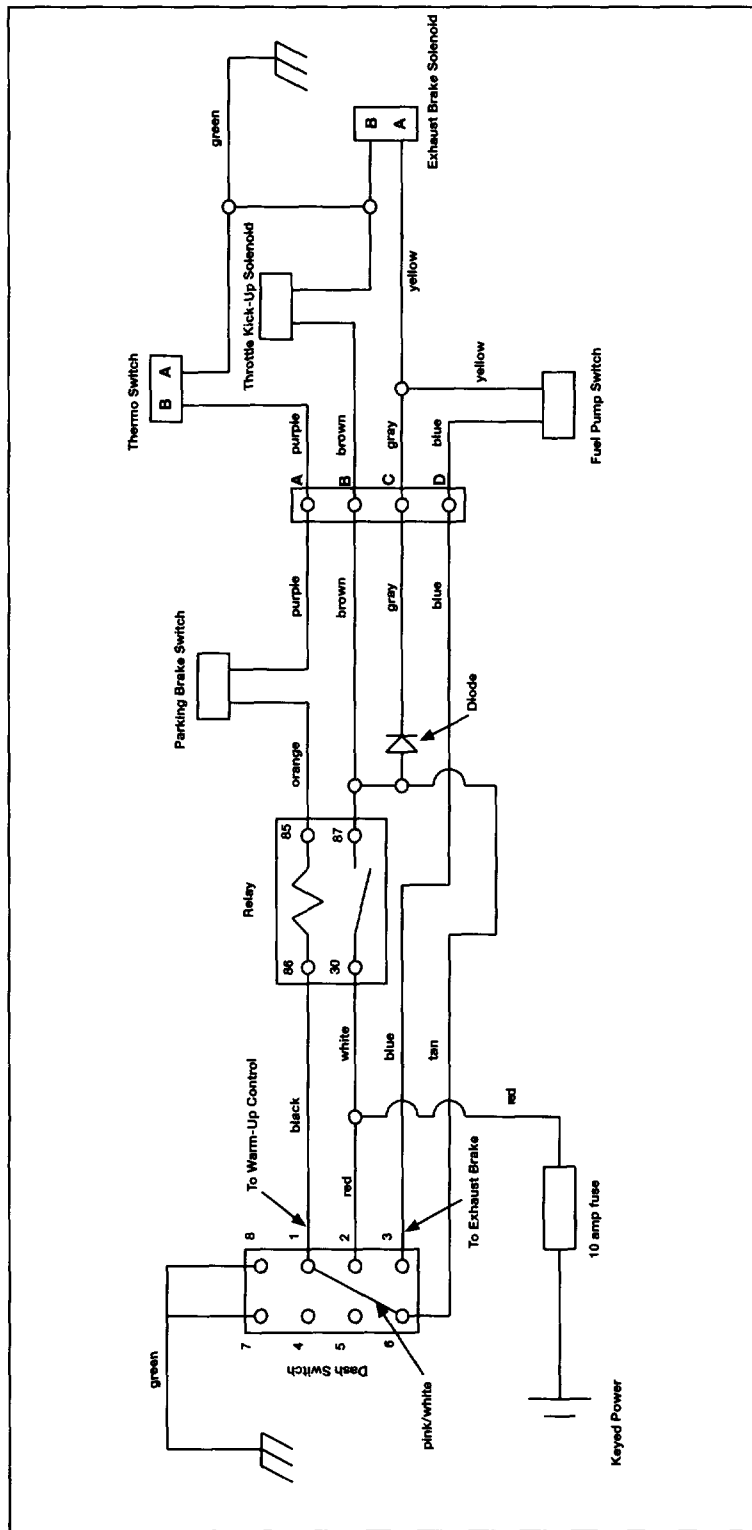

Figure 7
4. Check the operation of the Warm-Up Control Relay. To check Relay operation, apply 12 V across the Relay coil (pins 86 and 85 – see wiring diagram, Fig. 7, on the next page), then check for a closed circuit across pins 30 and 87 (a closed circuit indicates proper relay operation).